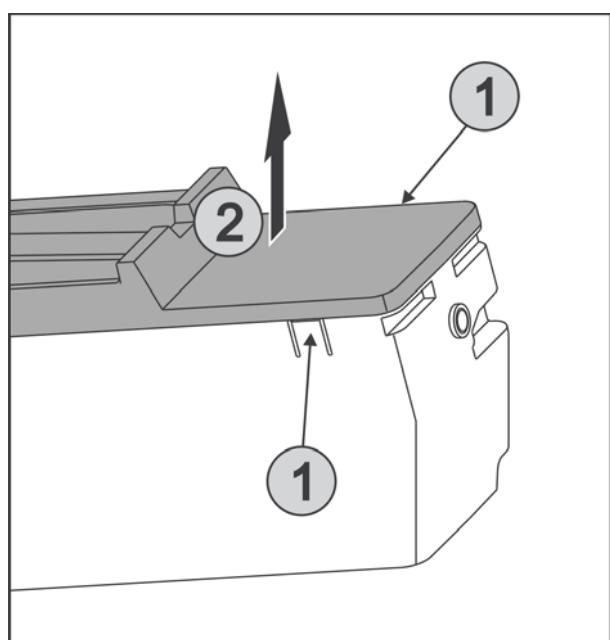

Fig. 39
- Press the lugs Fig. 39 (1) on both sides of the EasyTwist-Ice simultaneously and take off the cover Fig. 39 (2) upwards.